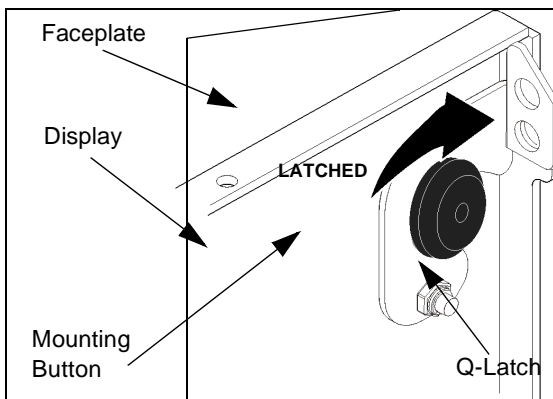

Figure 10: Close Q-Latch
- Secure display by placing the Q-Latch in the "Latched" position (See Figure 10).